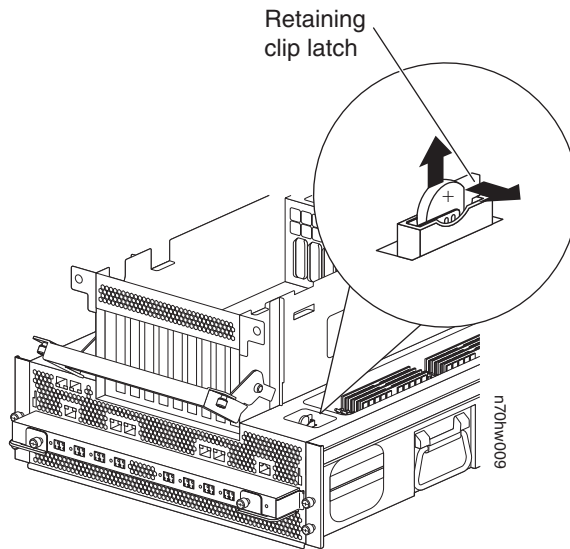

Figure 29. Removing the RTC battery
2. Open the motherboard tray and locate the RTC battery on the right, rear of the motherboard tray (closest to you, when the tray is open). See Figure 29 on page 62.